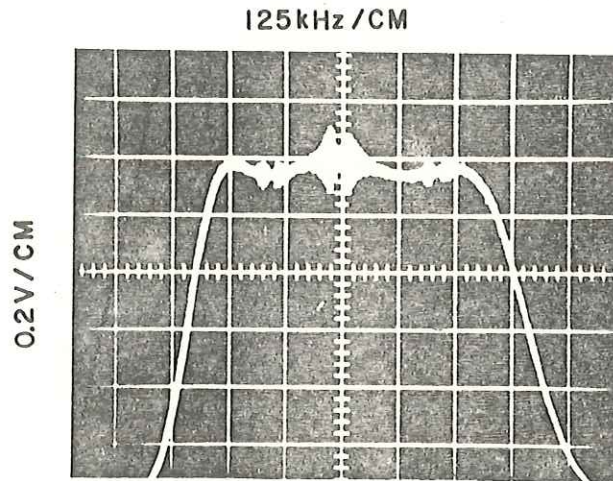

Figure 4-15. Typical Response, 21.4 MHz IF Amplifier (2 MHz BW)
The difference between the Types DM-112 and DM-112-1 Demodulators is at module A13. The basic alignment for both units is identical. However, several component designations and the front panel bandwidth markings differ. The oscillographs shown in Figure 4-15 through 4-18 are typical of the 2 MHz and 4 MHz bandwidth IF amplifiers used in the Type DM-112. Overall response curves of the IF amplifiers used in the Type DM-112-1 are similar to those of the Type DM-112 with the exception of the response bandwidths. The alignment steps for module A13 are outlined in paragraphs 4.4.10 and 4.4.11.
- (2) Remove the connector from A13J2.
- (3) Insure the mode switch is in the AM MAN position and the RF GAIN control is in its maximum CW position.
- (4) Place the IF bandwidth switch in the 2 MHz position (.5 MHz position for the DM-112-1.)
- (5) Set the sweep generator output frequency to 21.4 MHz. Turn on the sweep generator's internal 21.4 MHz and 1 MHz markers or apply external 21.4 MHz and 1 MHz markers.
- (6) Adjust the oscilloscope and sweep generator controls to display a response curve.
- (7) Adjust potentiometer A13AIR15 for a maximum amplitude response.
- (8) Adjust capacitors A13A1C18, A13A1C24, A13A1C30 and A13A1C37 for proper bandwidth and symmetry. Figure 4-15 illustrates a typical response for the 2 MHz bandwidth used in the Type DM-112.
- (9) Adjust capacitor A13A1C59 for maximum gain while retaining the response shape shown in Figure 4-15.
- (10) Place the IF bandwidth switch in the 4 MHz position (1 MHz position for the DM-112-1).
- (11) Adjust potentiometer A13AIR17 for maximum gain.